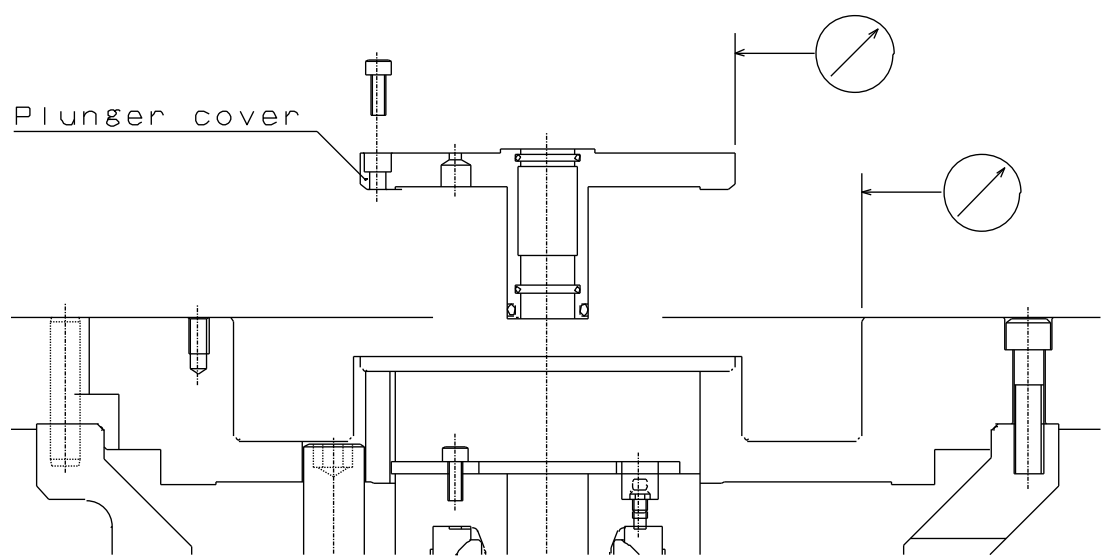

Fig.15
0.02 mm T.I.R. as shown in Fig.15.